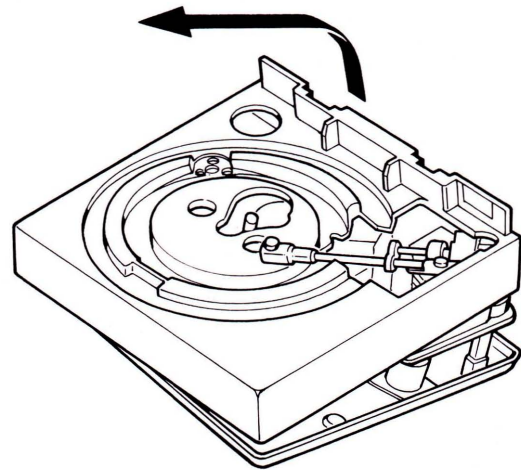

Fig. 2
4. Detach the tonearm from the armrest. Then, remove the cabinet as illustrated in Fig. 2.